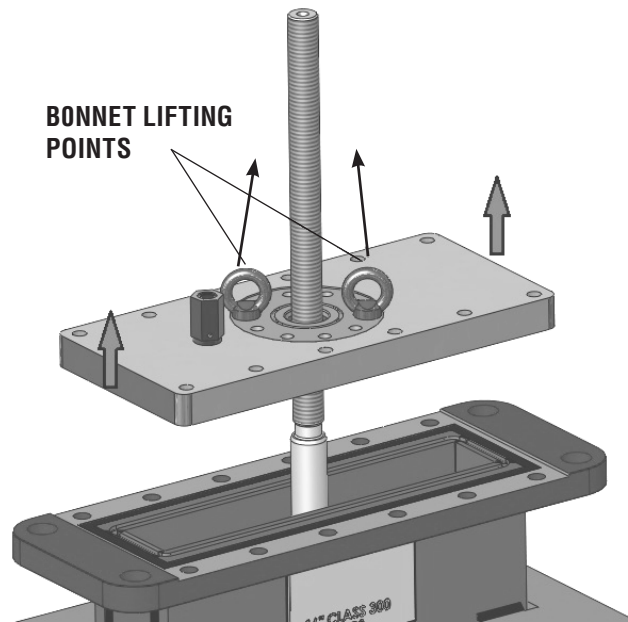

Figure 10 - Bonnet disassembly
11. Screw two male eyebolt into the bonnet tapered holes. Lift the bonnet and remove it from stem (ref. to Figure 10)